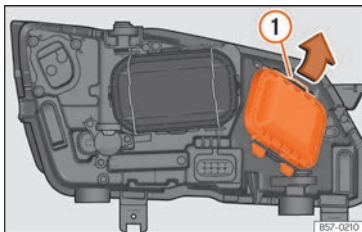

Fig. 55 In the engine compartment: remove the cover.
- Move the loop »» Fig. 55 (1) in the direction of the arrow and remove the cover.